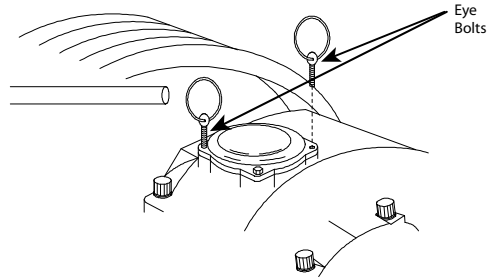

Figure 51 - Eye Bolts in Top Gear Housing
- Remove two (2) screws located diagonally across the top of the gear case, and replace them with two (2) eye bolts. See Figure 51.